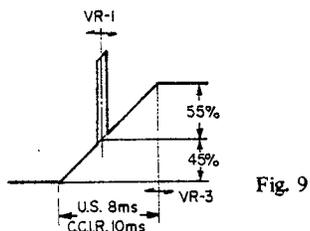

Fig. 9
- (4) Connect Oscilloscope to TP-8 and adjust VR-3 (30 KB) so that the Trapezoid Wave Ramp Slope is 8 ms (C.C.I.R. 10 ms) as shown in Fig. 9. Further, adjust VR-1 (1 KB) so that the Speed Control Sampling Pulse is positioned slightly below the center of the Ramp Slope.